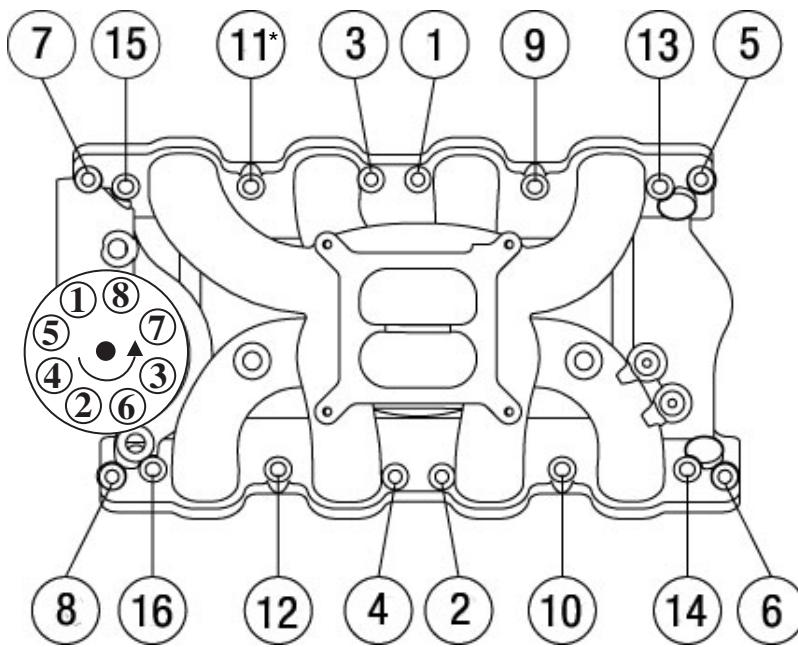

Figure 1 - 351C Ford Torque Sequence
**ACCESSORIES & INSTALLATION ITEMS:** Major recommendations are listed below. See our catalog for details. **To order a catalog, call (800) FUN-TEAM**, or visit [www.edelbrock.com](http://www.edelbrock.com).
- **MOUNTING HARDWARE:** These manifolds require a total of sixteen (16) intake manifold bolts to be properly secured. You will need eight (8) bolts that are 3/8"-16 and 1-3/4" long, and eight (8) bolts that are 5/16"-16 and 2" long. All sixteen (16) bolts will require chamfered hardened steel washers between the manifold and the head of the bolt. The longer bolts will thread through the vertical bosses, while the shorter bolts will mount perpendicular to the flange. See **Figure 1** for the proper torque sequence. **NOTE:** Manifold #7129 requires a shorter 3/8" bolt to clear the front passenger side runner. A 1-1/2" bolt is supplied with our #8529 manifold bolt kit. This bolt should be discarded if installing a #7183 manifold.
5. Install the intake manifold and hold-down bolts. The eight (8)  $\frac{5}{16}$ " bolts will be installed in the vertical bosses (1-8 of the torque sequence) and should only be torqued to 10 ft/lbs at this time. The eight (8)  $\frac{3}{8}$ " bolts will now be installed in the flange holes (9-16 of the torque sequence) and tightened to 15 ft/lbs. Now tighten the vertical  $\frac{5}{16}$ " bolts to 20 ft/lbs in sequence, and then the  $\frac{3}{8}$ " flange bolts to 30 ft/lbs, once again following the torque sequence shown in Figure 1.